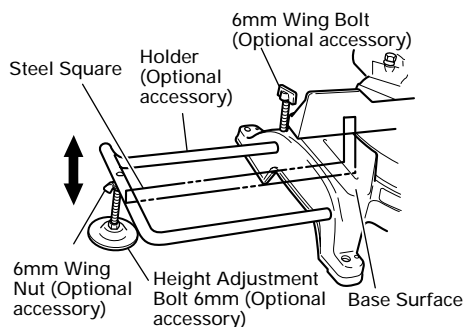

Fig. 9
(1) As indicated in Fig. 9, use a steel square for aligning the upper edge of the holders with the base surface.